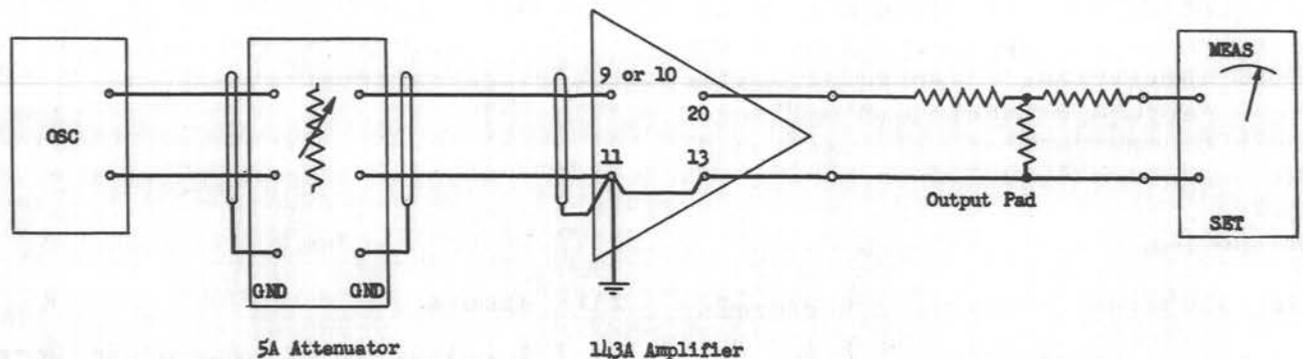
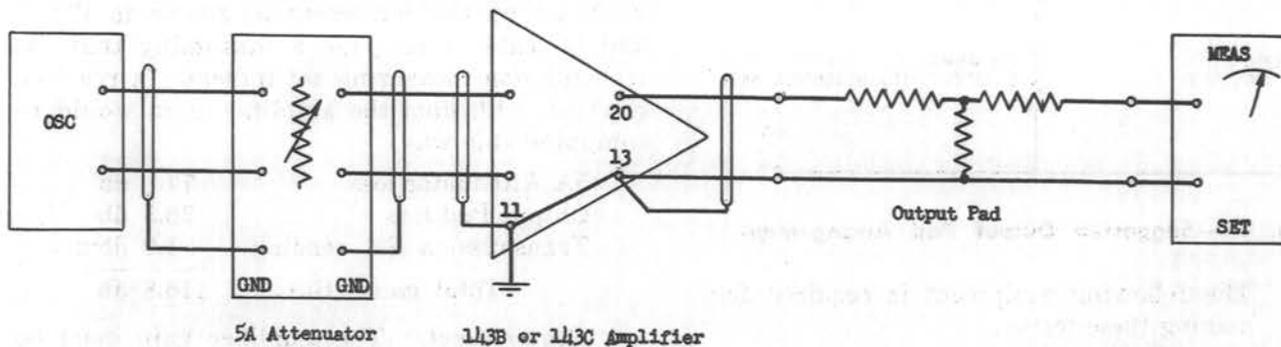

Fig. 2 — 143A Amplifier — Gain and Gain-Frequency Testing Arrangement
Fig. 3 — 143B and 143C Amplifier — Gain and Gain-Frequency Testing Arrangement
2.12 *Procedure:* Set up the testing arrangements indicated in Fig. 2 or 3, using the input terminals for the particular input arrangement of the amplifier under test. Strap the amplifier to work into a nominal load of 170 ohms. (See schematic.) Fig. 2 shows the shielding and grounding employed in the arrangement for gain test on the 143A amplifier. Fig. 3 shows the arrangement for testing the B and C models. Somewhat more shielding and grounding is employed in Fig. 3 because of the higher gains in these amplifiers, particularly in the 143B model. Make the tests on the amplifier in the order listed in Table 1 on page 8. The gain of the amplifier is in-
dicated by the algebraic sum of the attenuator loss, output pad loss, and the dial and meter reading on the measuring set. For example, if the 1000-cycle gain of a 143B amplifier is to be measured, set up the equipment as shown in Fig. 3 and in Table 1 on page 8. Assuming that the transmission measuring set indicates a received level of +1.0 dbm the amplifier gain would be computed this way: